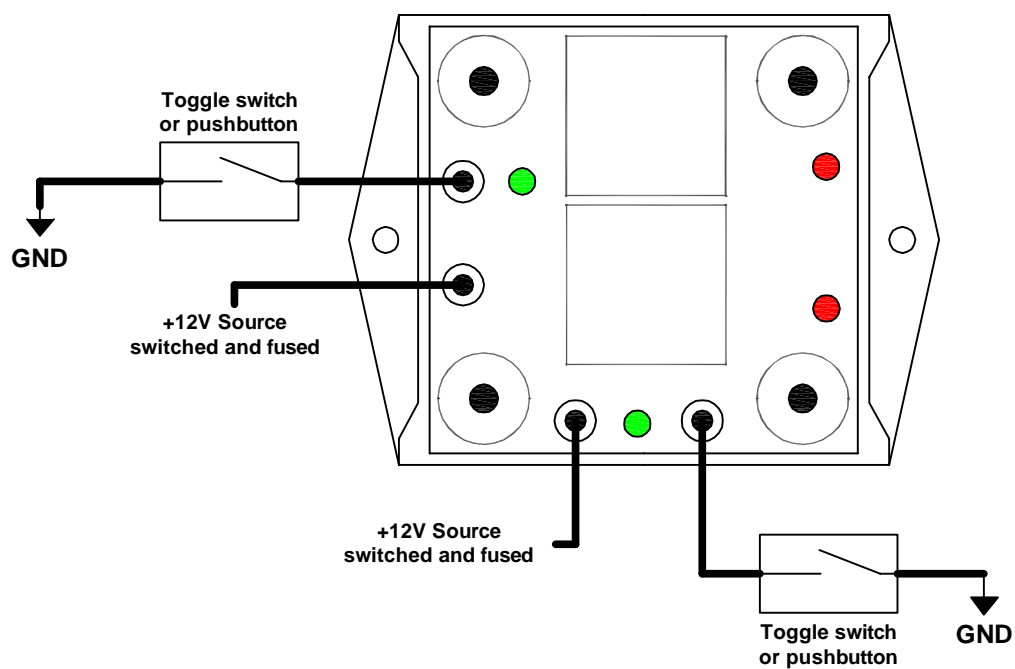

FIG. 3 Basic Ground Activation
- Figure 3 Basic Ground Activation